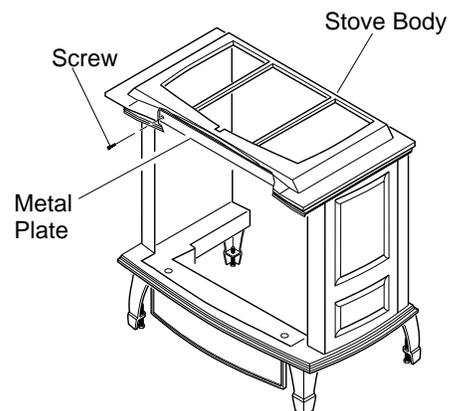

Figure 15 - Removing Metal Plate from Stove Body
17. Remove the four screws that secure the metal plate located across the front section at the top of the stove body (see Figure 15). Discard these screws and metal plate. They are for vent-free use only.